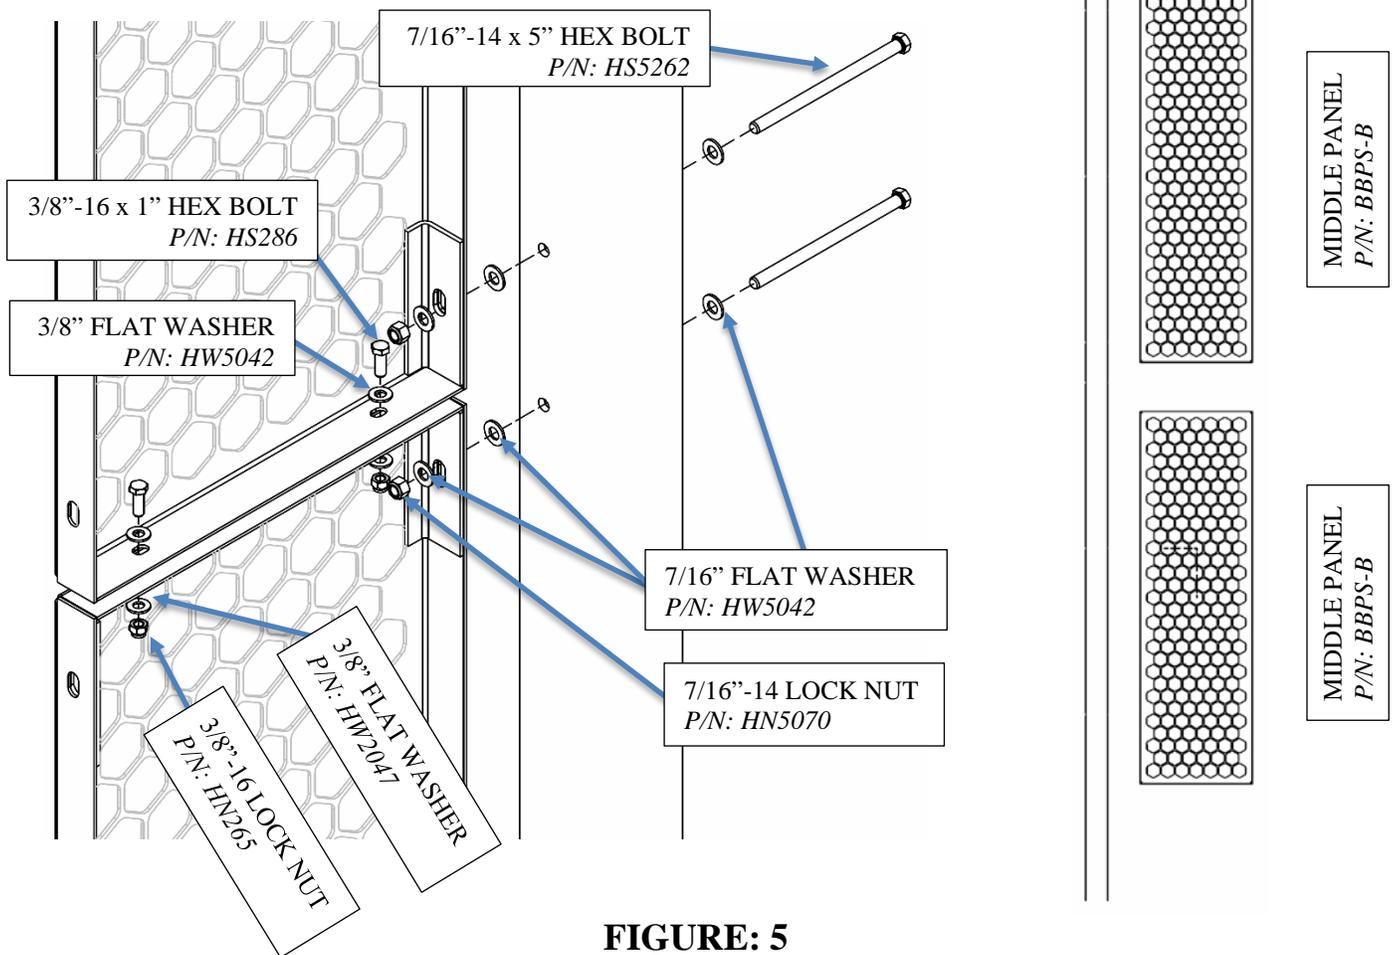

FIGURE: 5
2. Attach the side panels per figure 5 orient the panel so the front side is facing the field.